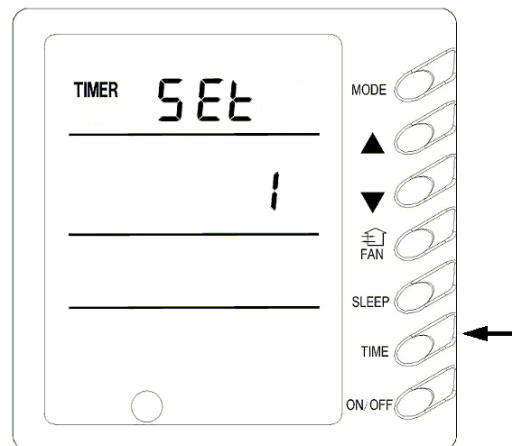
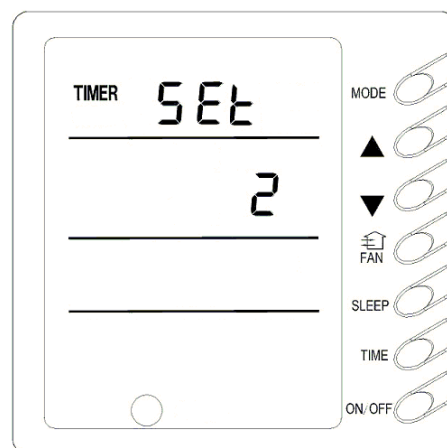
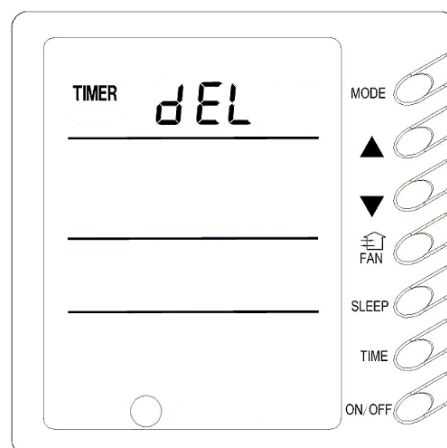

Fig.7
Fig.8
Fig.9
6) Setting Timer (Fig.7, 8, 9)
Either in ON status or OFF status of the unit press TIMER button into timing setting, and then press▲ or ▼ button to set timing(Fig.7),set time(Fig.8) and delete timing (Fig.9). At last, press TIMER to set it.